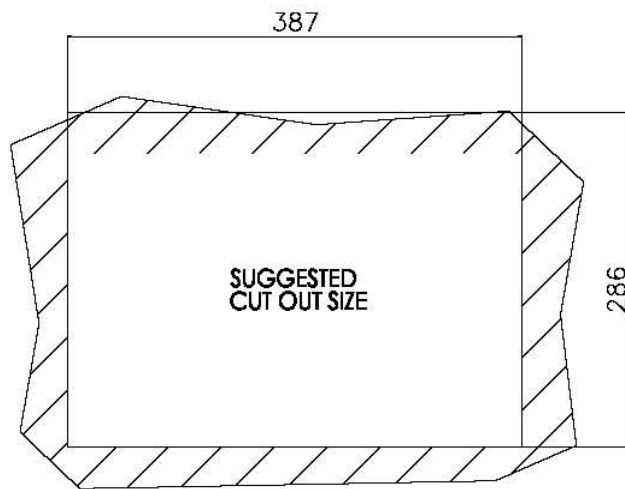
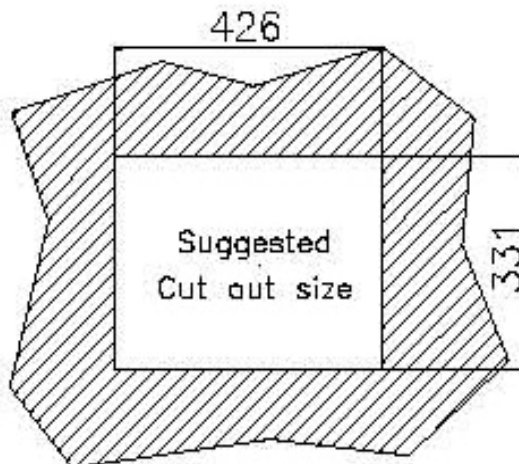
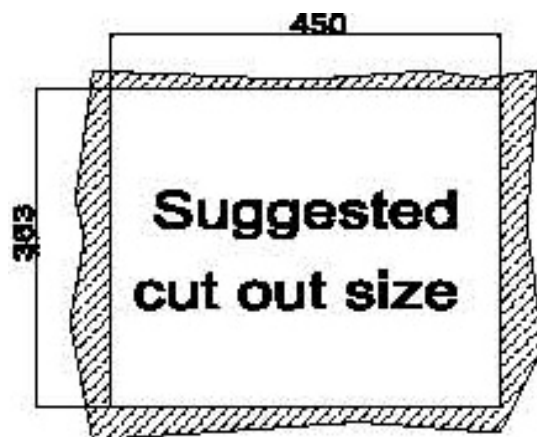

Figure 3-25: PPC-5150A-H61 Panel Cutout Dimensions
Figure 3-26: PPC-5170A-H61 Panel Cutout Dimensions
Figure 3-27: PPC-5190A-H61 Panel Cutout Dimensions
Step 2: Cut out a section of the panel that corresponds to the rear panel dimensions of the PPC-51xxA-H61. The recommended cutout sizes are shown below (**Figure 3-25**, **Figure 3-26** and **Figure 3-27**).